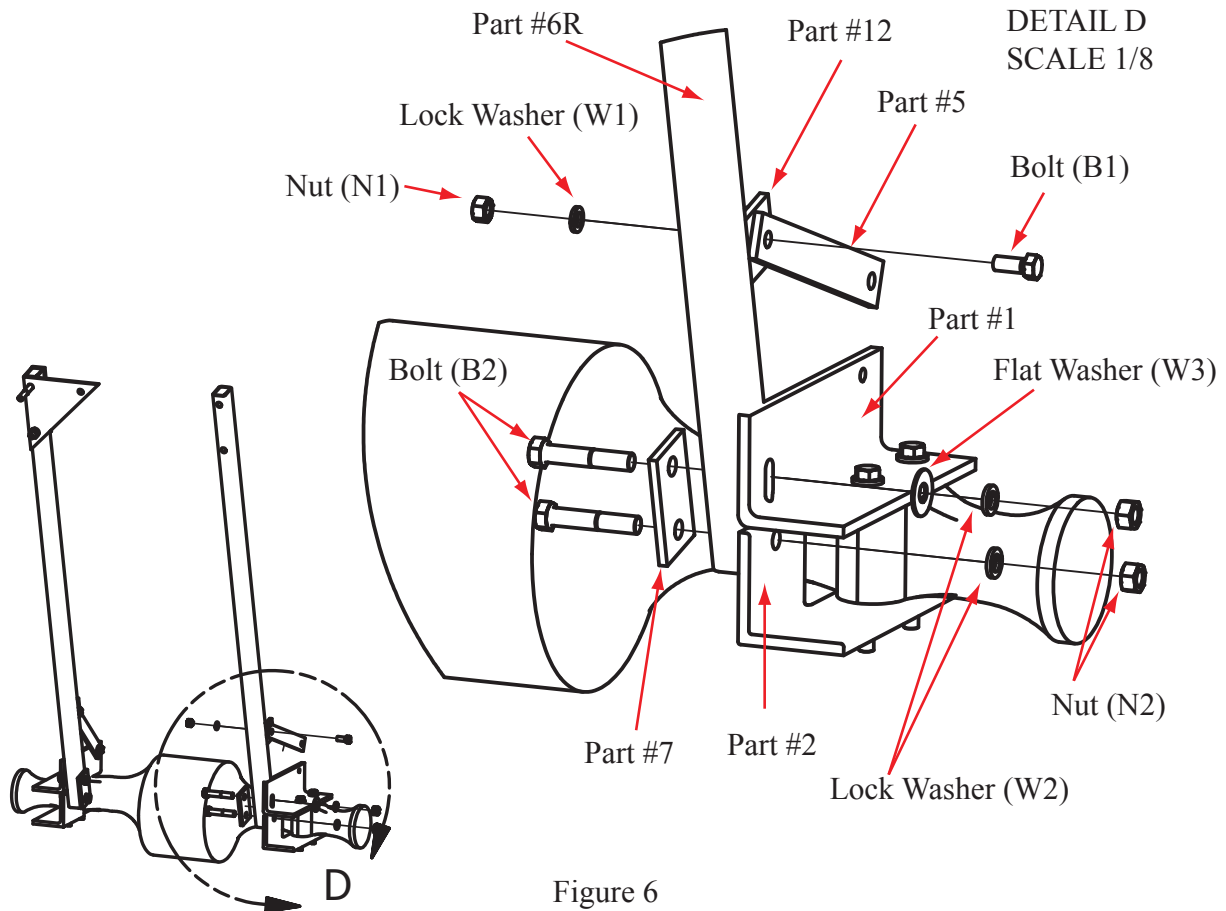

Figure 6
**Step 11.** Attach a vertical tube bolted brace (#5) to the vertical tube welded brace (#12) of the right vertical tube (#6R) using a bolt (B1), a lock washer (W1), and a nut (N1). Tighten to a snug fit. (Figure 6)
**Step 12.** Insert bolt (B2) through the bottom vertical tube backing plate (#7). Slide the bottom holes of the right vertical tube (#6R) onto bolt (B2), then slide bolt (B2) through the hole on the bottom right axle bracket (#2). Secure with lock washer (W2) and nut (N2) to create a snug fit. The vertical tube welded brace (#12) (welded to part #6R) and bolted brace (#5) should be facing up and toward the axle bracket side as shown in Figure 6.
**Step 13.** Rotate the vertical tube (#6R) toward the front of the tractor. Insert bolt (B2) through backing plate (#7), and the corresponding holes in the right vertical tube (#6R), and the slotted opening in the top right axle bracket (#1). Slide the flat washer (W3) onto bolt (B2) and secure with lock washer (W2) and nut (N2) to create a snug fit. (Figure 6)